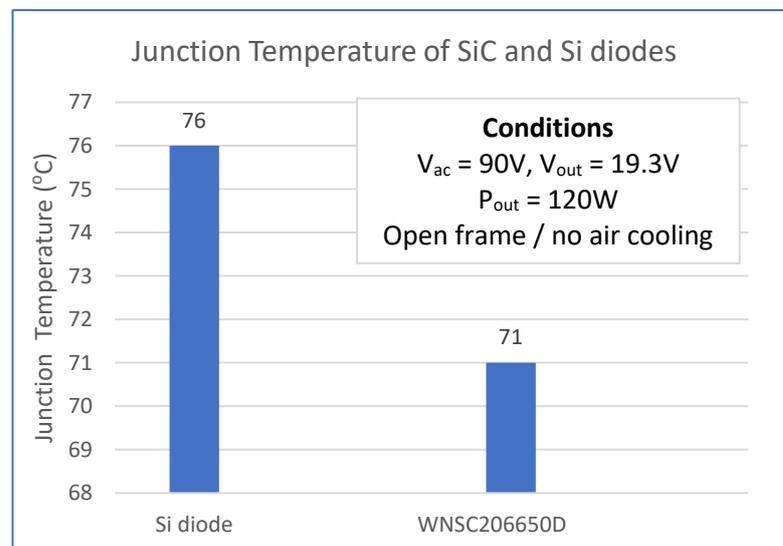

Fig. 5. Graphic showing reduced power efficiency of converter using SiC diode
- SiC material has better thermal conductivity, which is beneficial for heat transfer and consequently a reduced junction temperature during operation. This also improves reliability. (See Figure. 5)